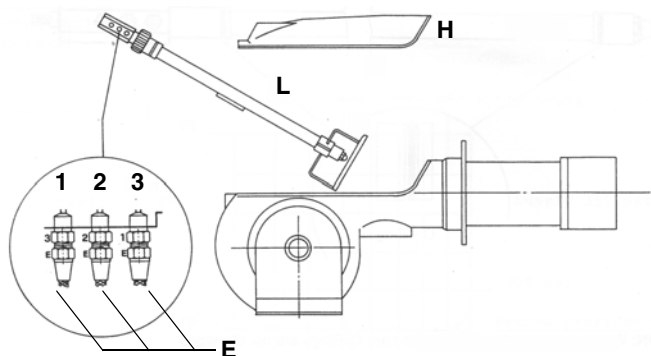
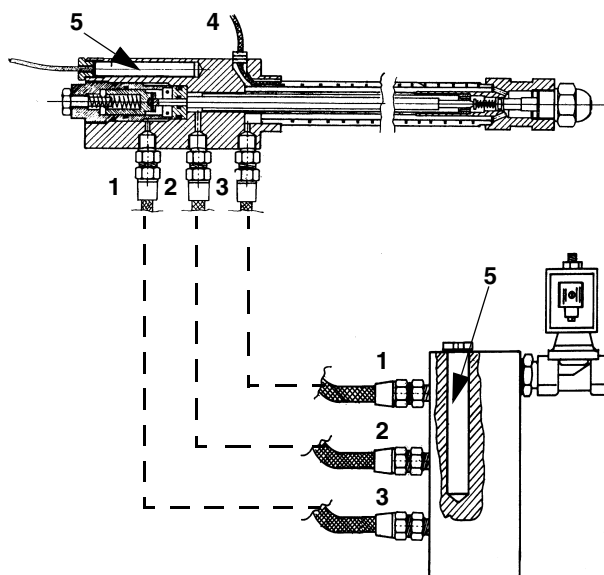

Fig. 24
Fig. 25
- Unscrew the oil connections E (Fig. 24) connecting the flexible pipes to the gun L and remove the whole assembly as shown in Fig. 24-Fig. 25.